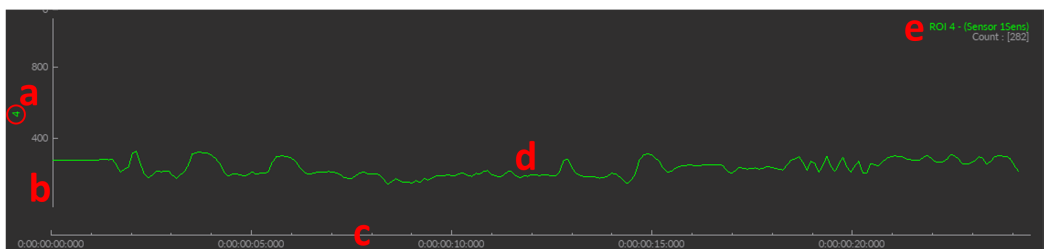

Figure 7.40: ROI(s) View, graphs
- a) The **ROI(s) ID** (Fig. 7.40, a) specifies which ROI the signal graph belongs to. The graphs are displayed in order of ROI created.
- b) The **y-axis** (Fig. 7.40, b) represents the mean signal intensity of the ROI, which is unit-less.
- c) The **x-axis** (Fig. 7.40, c) represents the time in d:hh:mm:ss:zzz.
- d) The **Trace** (Fig. 7.40, d) is the curve of the signal, corresponding to fluctuations in pixel intensity, from which $\Delta F/F_0$ will be calculated.
- e) The **Legend** (Fig. 7.40, e)